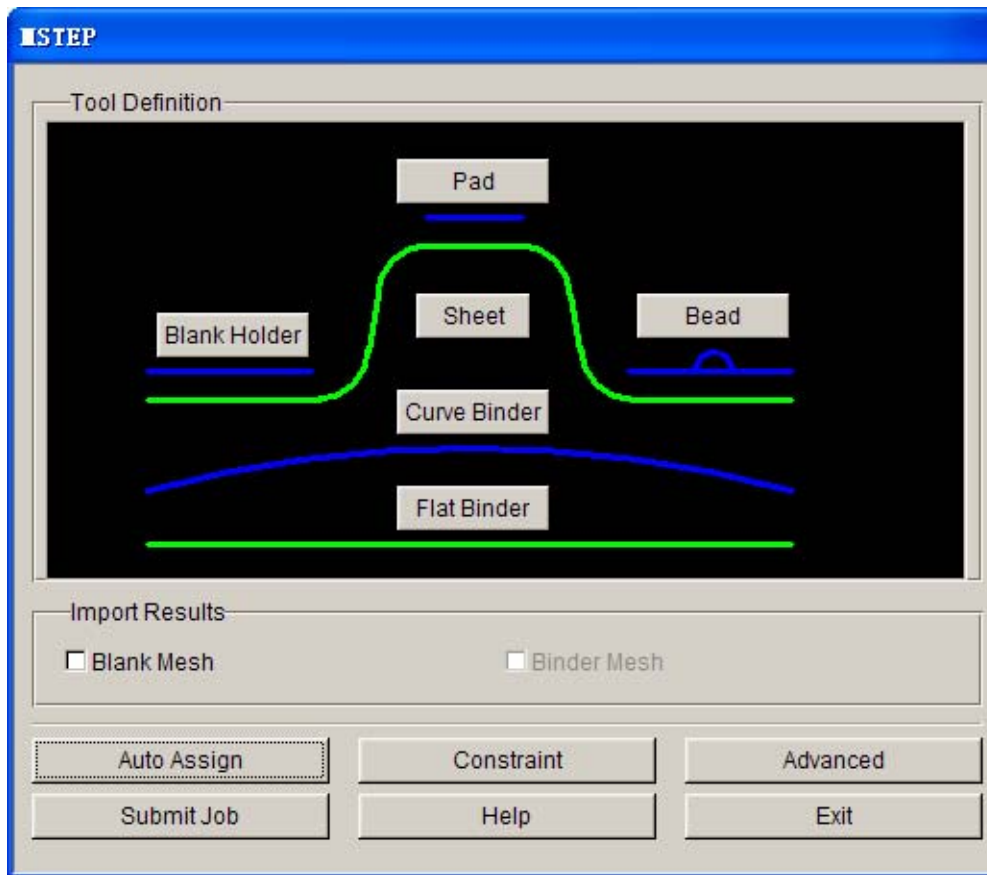

Figure 2.28: MSTEP GUI after sheet definition
- 11) Observe the color of **Sheet** is changed from red to green, indicating definition of sheet is complete. See Figure 2.28.